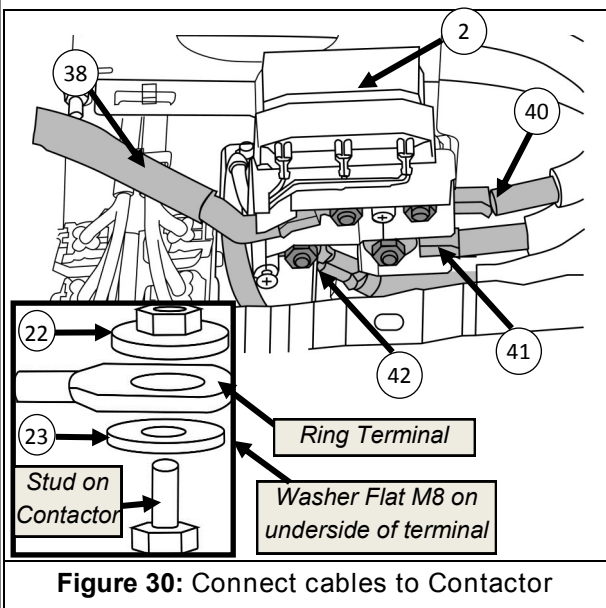

Figure 30: Connect cables to Contactor
- Connect Cable Motor A (Item 40), Cable Motor F1 (Item 41) & Cable Motor F2 (Item 42) to the correct terminals on the Contactor (Item 2) as shown in Figure 30, using 3X Washer Flat M8 (Item 23) and 3X Nut Hex Flange M8 x 1.25P (Item 22). Refer to labels on individual cables for identification.